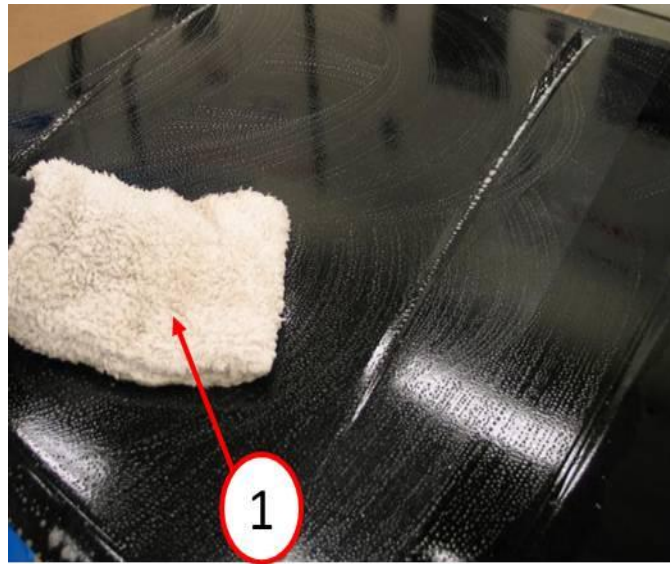

Fig. 2 Washing With Soap and Water
1. Before removing any overspray, wash the effected area with soap and water as shown in (Fig. 2).